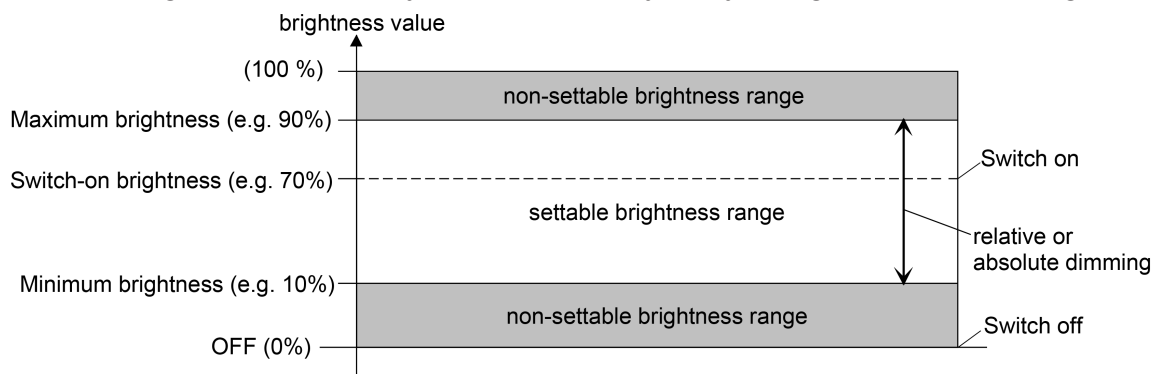

Figure 12: Example of a brightness range with minimum brightness
- Definition of the lower brightness limit with minimum brightness (see figure 12):